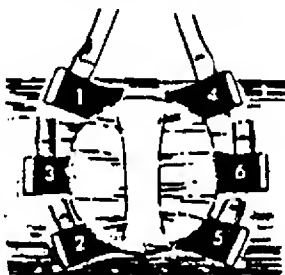
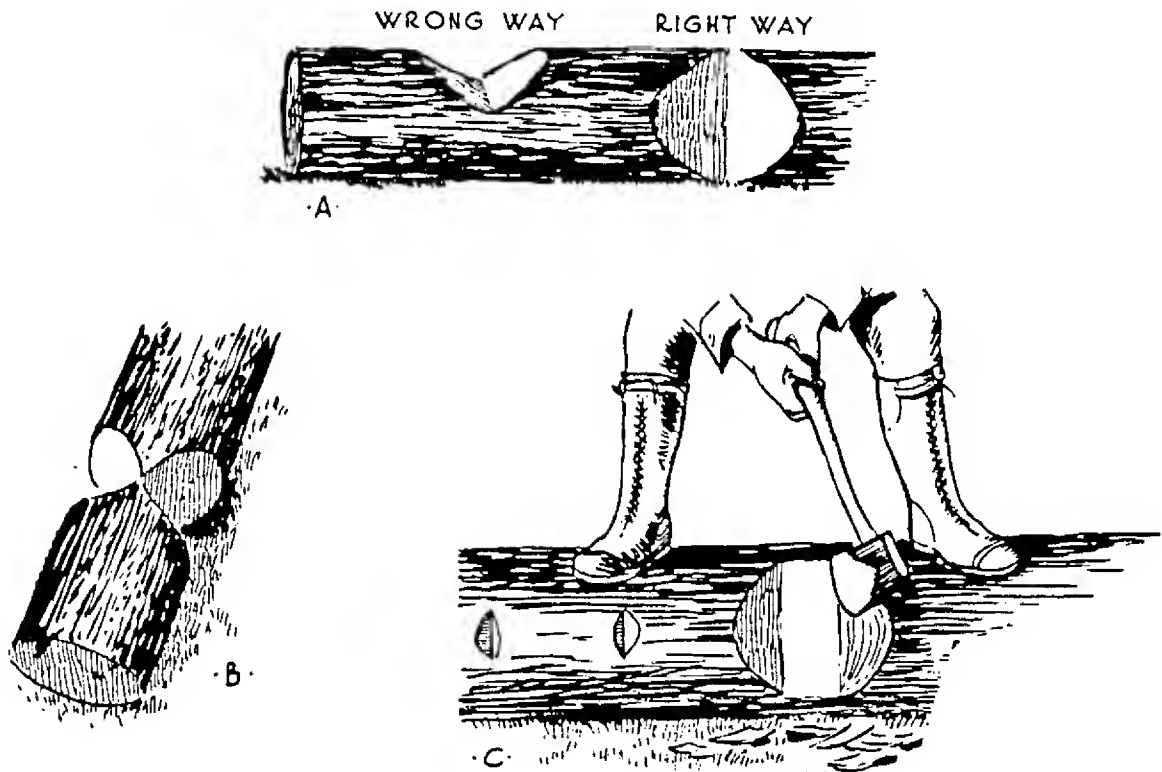

Figure 31
Figure 32
3. Logging-up a Tree Log-up is a term used for logging or bucking which means to cut the tree trunks into desired lengths. Logging-up a tree is done by making V-shaped notches of the same diameter as the tree. Make cuts as shown in Figure 31. When half through, the axeman should cut from the opposite side of the tree. A log or tree trunk should be chopped with the axeman standing on top of the log or behind it, and cutting through it from its sides. This eliminates having to turn logs over. See Figure 32.